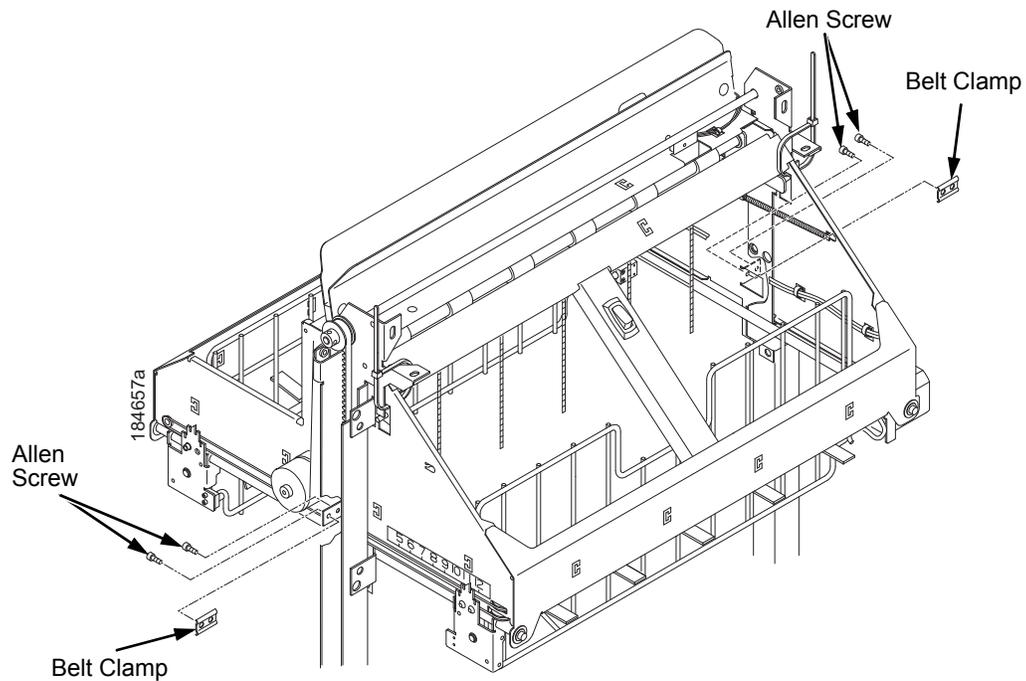

Figure 31. Removing the Belt Clamps
7. Remove two Allen screws from the belt clamp that secures the timing belt to the stacker frame. (Figure 31.)